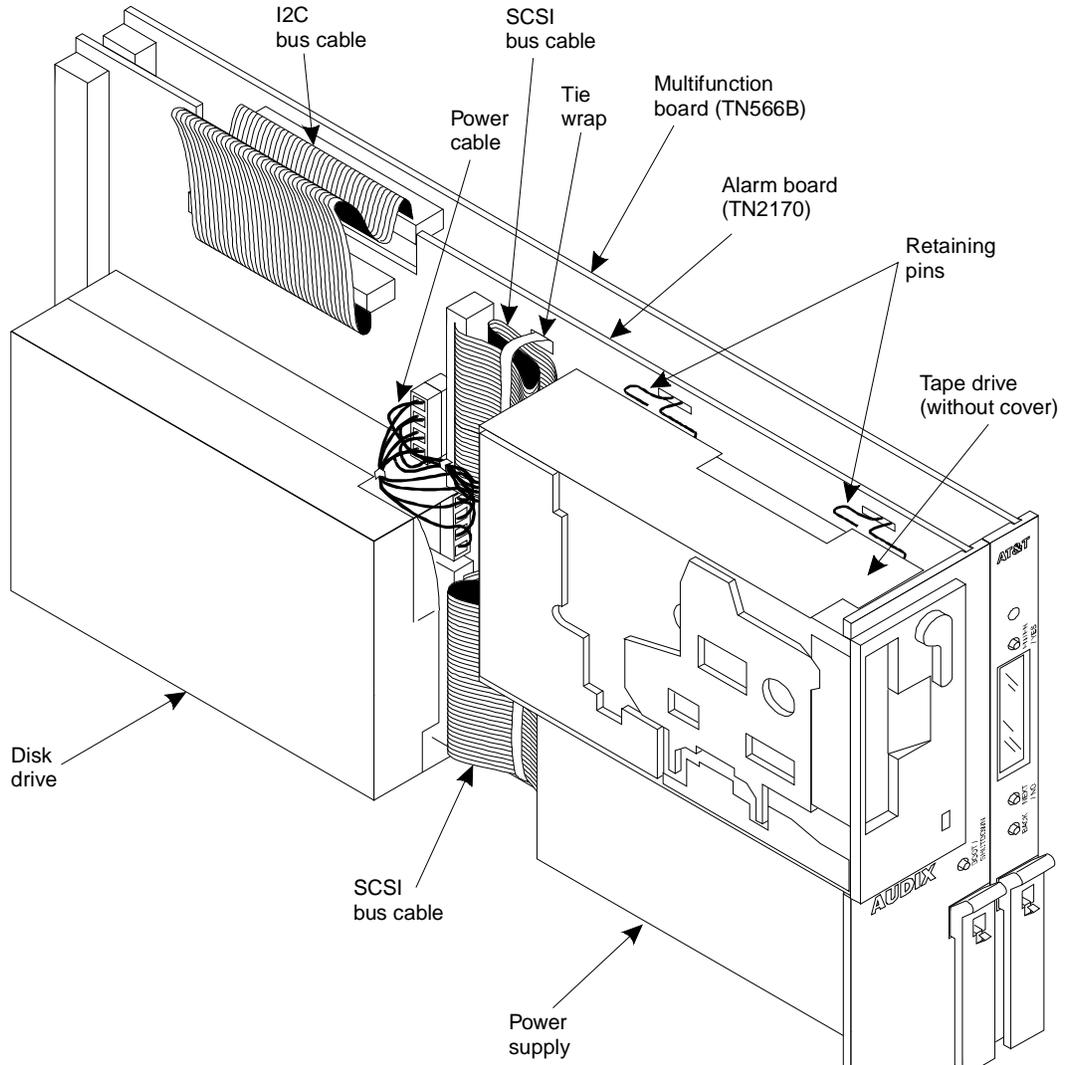

Figure 2-1. DEFINITY AUDIX System Assembly
3. Referring to Figure 2-1 and Steps 3a and 3b below, connect the DEFINITY AUDIX system assembly adaptor cables to the port connectors on the back of the switch.
5. Insert the DEFINITY AUDIX system assembly (see Figure 2-1, DEFINITY AUDIX System Assembly) into the switch cabinet as follows: